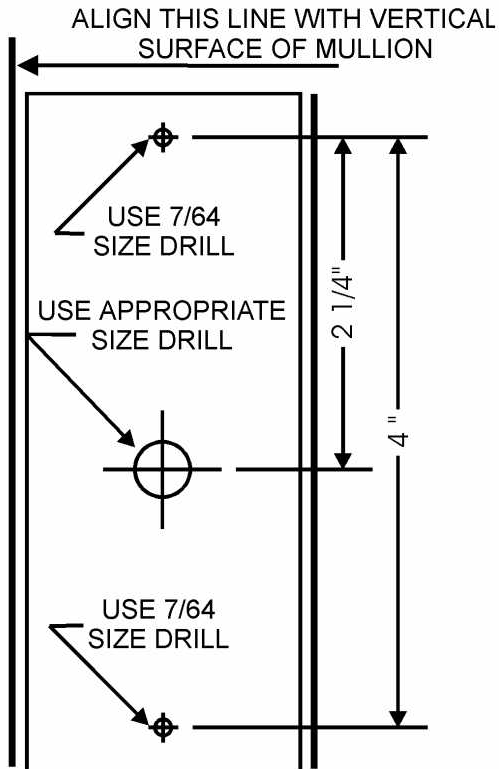

FIGURE 1: HOLES LOCATION
- 1. Position the reader (item b in the Parts List) at the desired location. Observe ADA height requirements. Drill two 7/64 (0.109)-inch holes for the reader screws, and one clearance hole for the cable (see Figure 1).